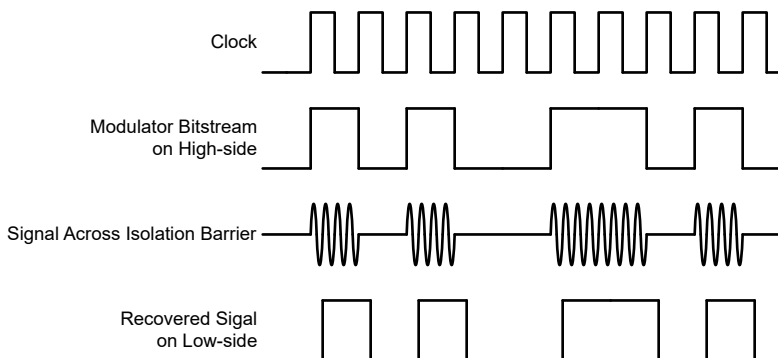

图 7-3. OOK-Based Modulation Scheme
The AMC3336 uses an on-off keying (OOK) modulation scheme, as shown in 图 7-3, to transmit the modulator output bitstream across the SiO₂-based isolation barrier. The transmit driver (TX) illustrated in the Functional Block Diagram transmits an internally generated, high-frequency carrier across the isolation barrier to represent a digital *one* and does not send a signal to represent a digital *zero*. The nominal frequency of the carrier used inside the AMC3336 is 480 MHz.
图 7-3 shows the concept of the on-off keying scheme.